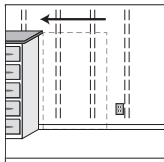

Figure 2
- Slide furniture away from wall, allowing yourself enough room to work. (Fig. 2)